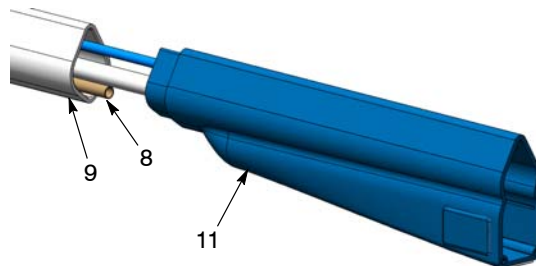
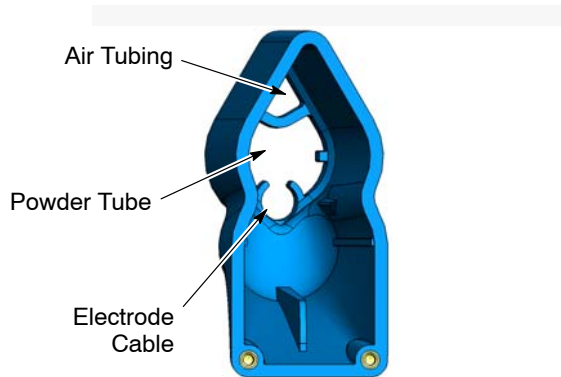

Figure 41 Pulling Housing Off Body Tube
Figure 42 Air, Powder, and Electrode Cable Routing Through Housing
4. See Figure 41. Pull the housing (11) off the body tube (9) to expose the cable guide (8).
5. See Figure 42. Route the new electrode cable through the housing as shown, while guiding the multiplier into the housing, until the heatsink is about 1 inch from the end of the housing.
6. See Figure 41. Insert the end of the cable into the cable guide (8) and push it through while routing the powder tube and air tubing through the housing as shown in Figure 42.